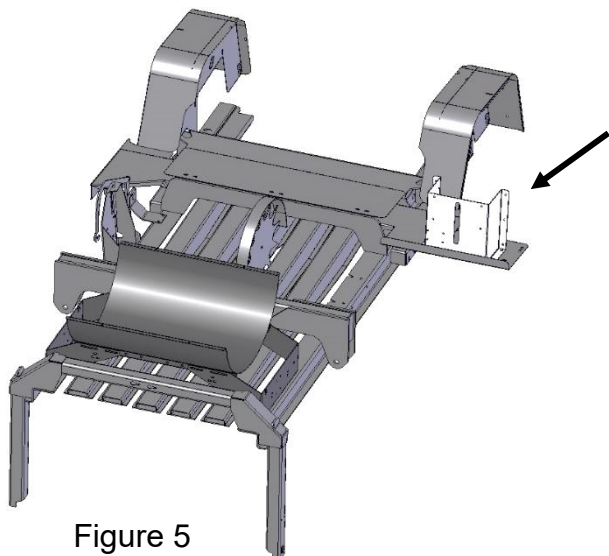

Figure 5
- Mark the mounting holes and drill out using 3/8" bit. Recommended mounting locations pictured (Fig. 5 and 6). Alternatively dye marker tank can be mounted near ground level for ease of filling.